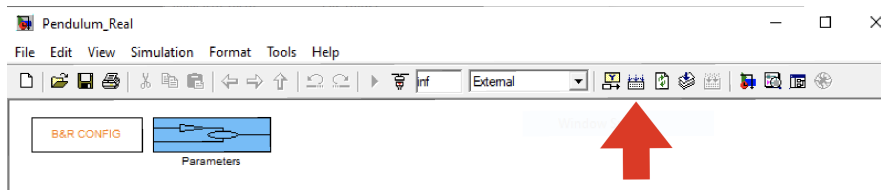

Figure 3.2: Press here to build the model.
1. In the Simulink model *Pendulum_Real.mdl*, press the button indicated in Figure 3.2 to build the model.